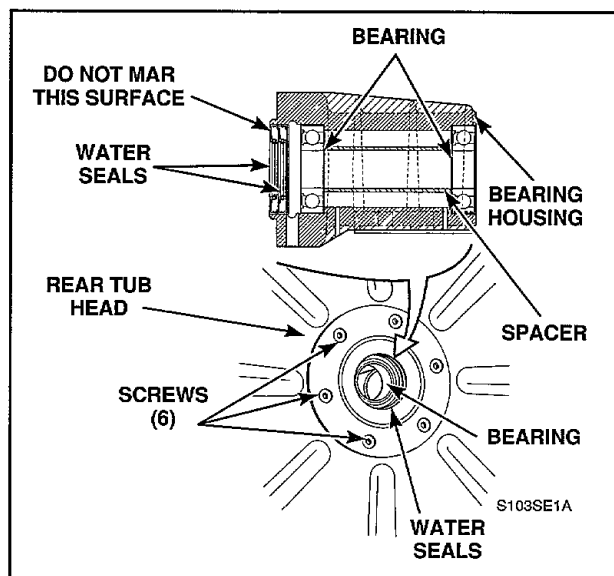

Figure 46
- Remove six screws, lockwashers, gasket retainer and gaskets holding rear tub head to bearing housing, *Figure 46*.
- r. Remove six screws, lockwashers, gasket retainer and gaskets holding rear tub head to bearing housing, *Figure 46*.
NOTE: New seals should be installed with spring loaded lip facing in as shown in *Figure 46*.
IMPORTANT: Be careful when installing second water seal as not to mar the surface where the "V" ring seal contacts the water seal, *Figure 46*.
- r. Remove six screws, lockwashers, gasket retainers and gaskets holding rear tub head to bearing housing, *Figure 46*.
NOTE: When replacing bearings, we recommend installing new water seals as per paragraph 34. Apply a retaining compound (such as Loctite) to outside diameter of bearings. Install bearings with sealed side facing rear tub head, *Figure 46 or 47*.